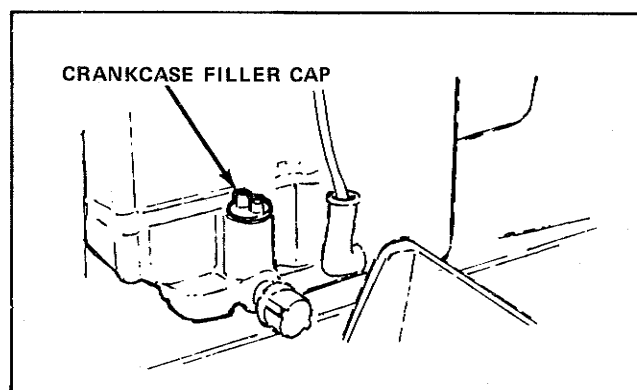

Figure 3
2. Engine Oil: Be sure the oil in the engine crankcase is at the proper level. See your Briggs and Stratton manual and page 10 (Figure 3) of this manual.